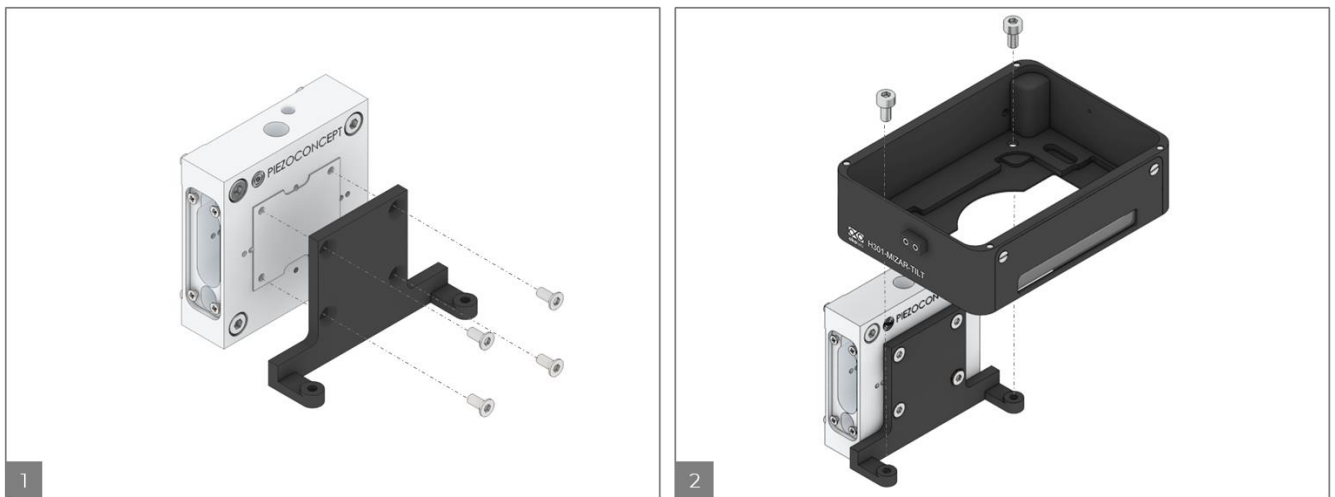

Figure 6. Installation of the Chamber on the Stage.
To fix the H301-MIZAR-TILT on the stage, follow the steps listed below and shown in Figure 6:
6. Fix the bracket to the SLR.300 Piezoconcept Stage with four M2.5x6 screws (see Image 1 of Figure 6).
7. Fix the base of the chamber with two M3x6 screws on the bracket (see Image 2 of Figure 6).